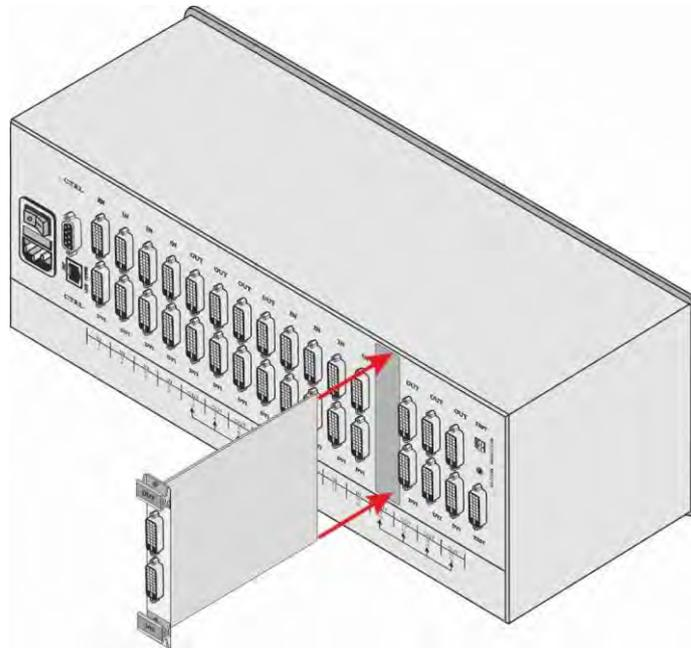

Figure 18: Inserting the Card into a Slot
**To install an input / output card as shown in Figure 18:**